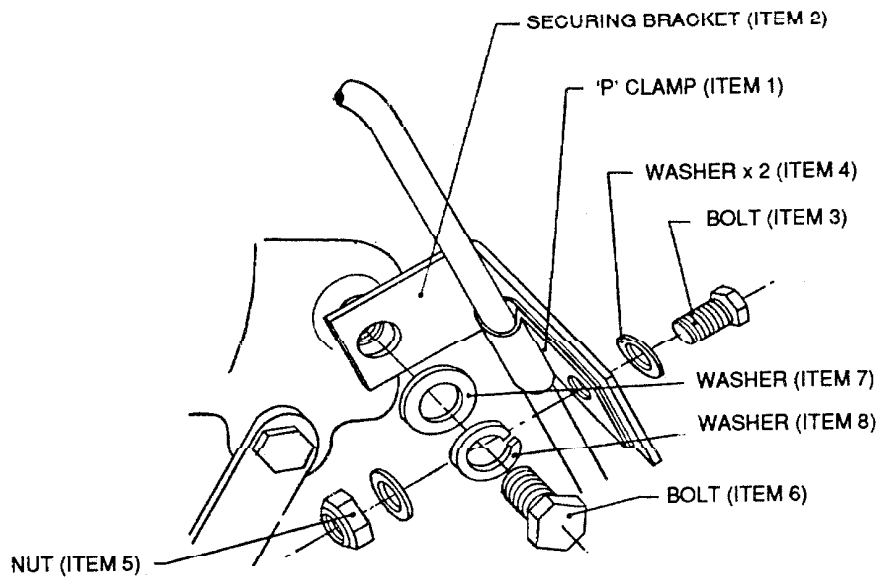

FIG 1 - TURBOCHARGER OIL FEED PIPE SECURING CLIP
- c. Fit the "P" clamp (item 1) over the upper turbocharger oil feed pipe.
- d. Attach the "P" clamp to the support bracket (item 2) using bolt, washers and nut (items 3, 4 and 5) and then attach the support bracket to the exhaust manifold using the bolt and washers (items 6, 7 and 8), as shown in Fig 1.